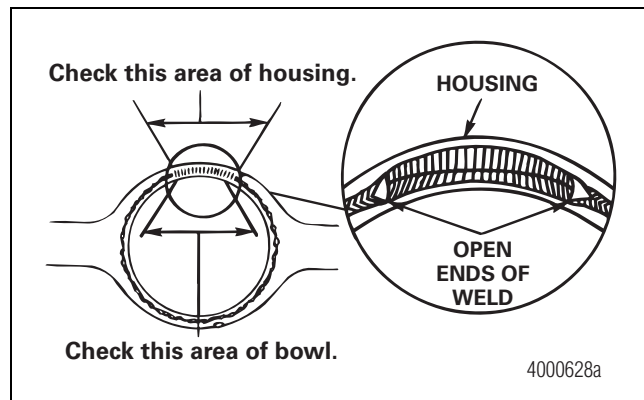

Figure 3.7
- Open ends of the remaining housing-to-cover weld, created after removing the damaged weld area. Figure 3.7.
- Housing and cover area next to the section of weld that was removed. Figure 3.7.